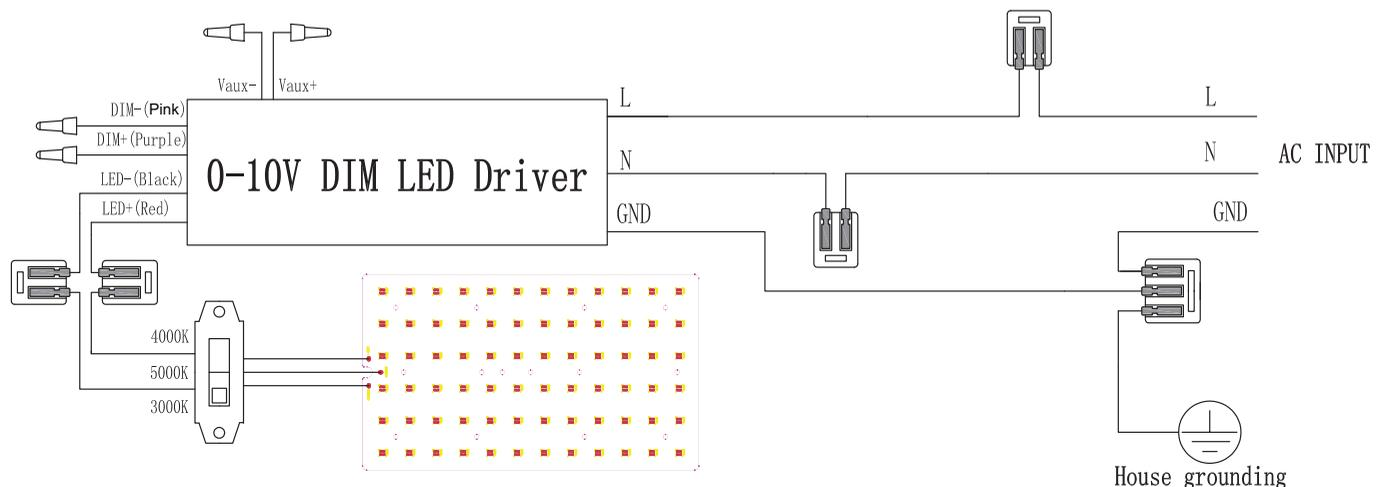
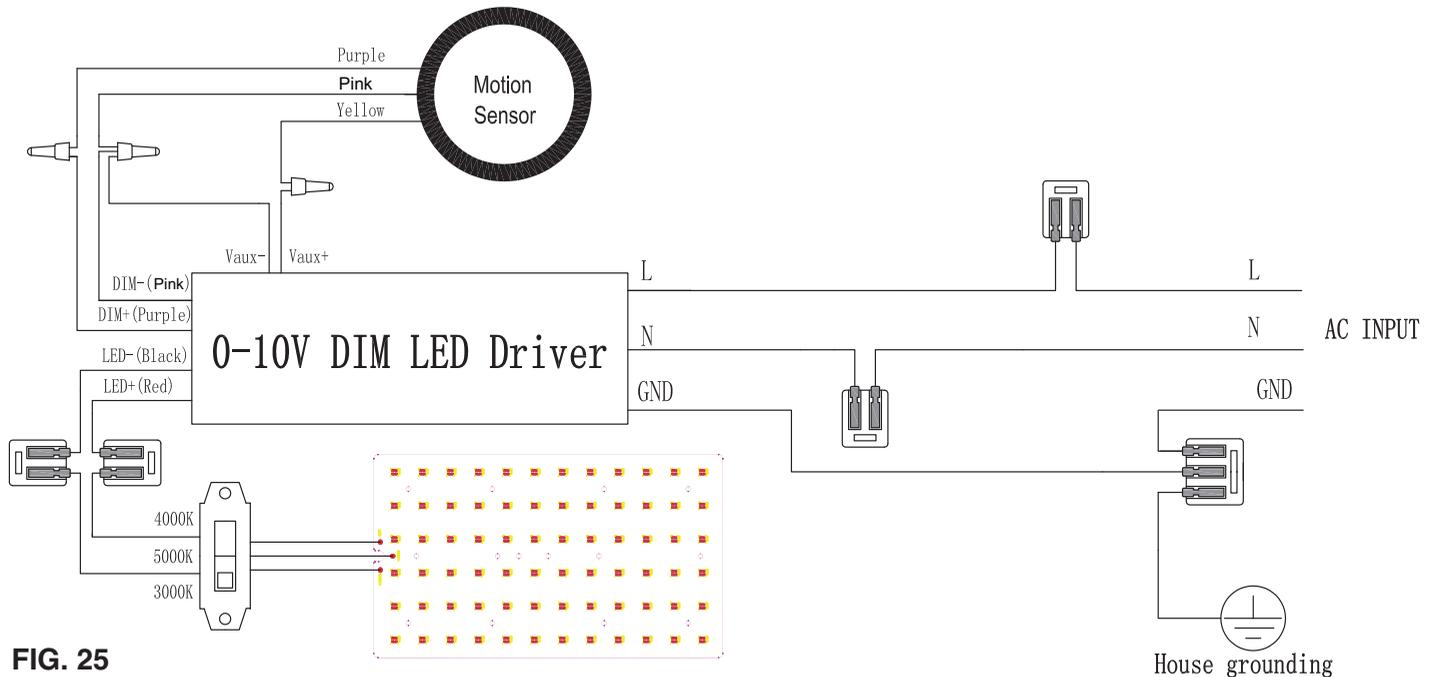
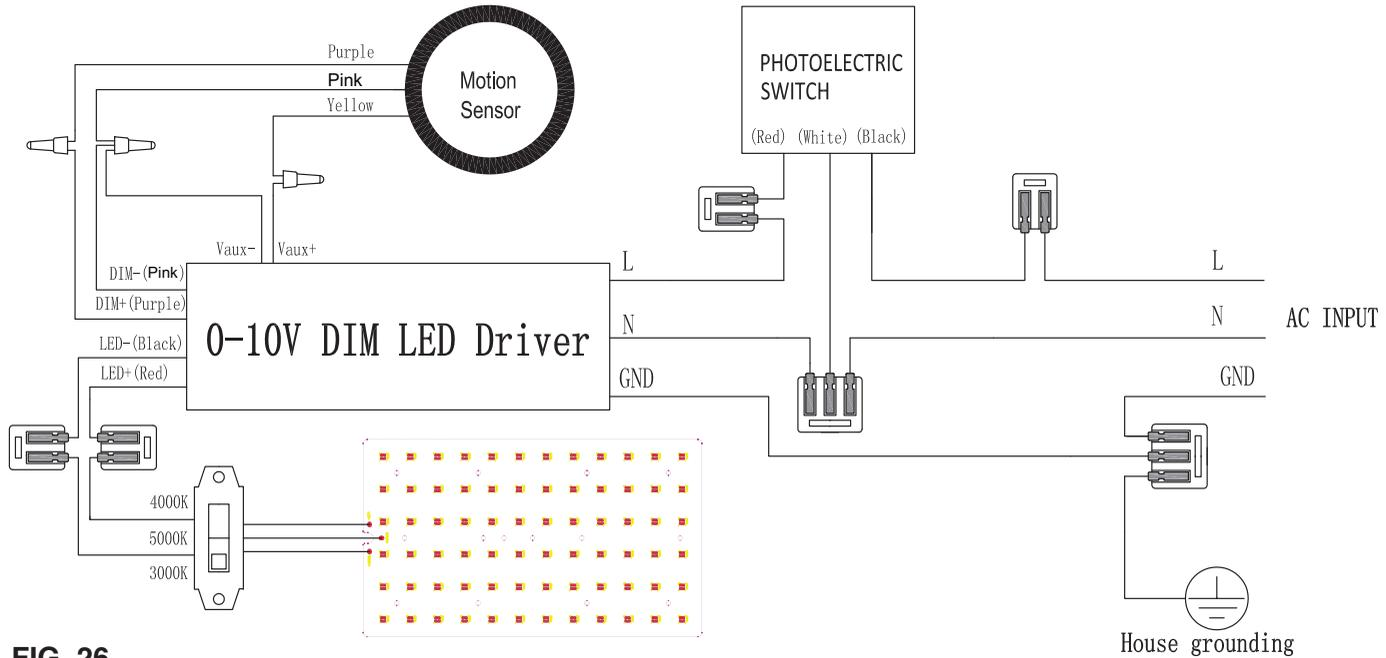
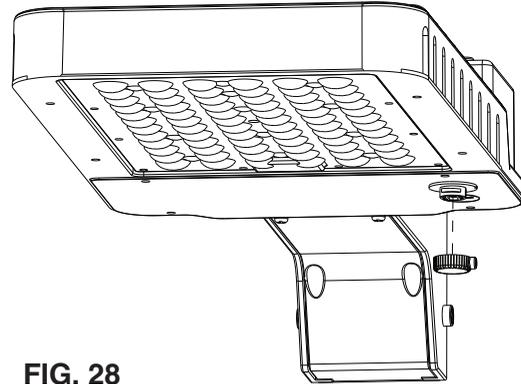

FIG. 23
FIG. 25
FIG. 26
FIG. 28
3. The FIG. 23 to FIG. 26 demonstrates the interior wiring of four different configurations in the driver compartment (When need to remove or replace any component in the driver compartment, please refer to the below wiring FIG. 25 to FIG. 28 and base on the actual condition, resume using the fixture by wire connecting).
1. FIG. 23 is for wirings when only one LED driver is used in driver compartment, no options.
3. FIG. 25 is for wirings when motion sensor is used.
4. FIG. 26 is for wirings when motion sensor and photocell sensor are used.
2. Remove the USB-C receptacle cover by turning it 90° (see FIG. 28).